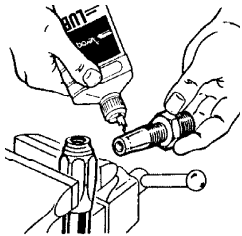

Fig. 3
3. Lubricate nipple threads and inside of hose liberally. Use heavy oil or Aeroquip 222070 hose assembly lube. (See Fig. 3)
4. Lubricate nipple threads and inside of hose liberally. Use heavy oil or Aeroquip 222070 hose assembly lube. (See Fig. 3)